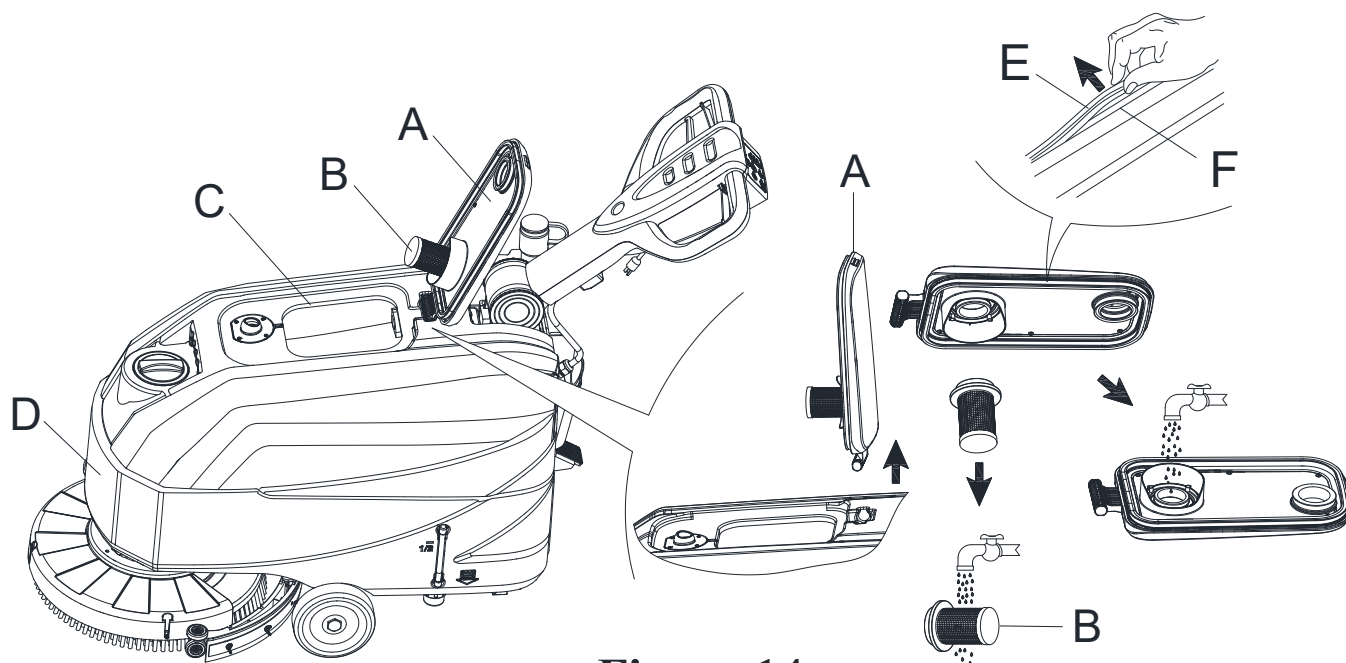

Figure 14
3. Turn the recovery tank lid (A, Figure14) 90degree position where it can be taken off from the recovery tank, and then take out the float ball filter (B) from the recovery tank lid.
7. Check whether the contact surface of sealing strip (E) has integrity and sealing is sufficient. If necessary, take the sealing strip of the tank out of the groove (F) and replace it. Assemble the new sealing strip as shown in (Figure 14), the joint should be back in the middle area.
8. Close the recovery tank lid (A).